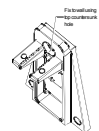

Fig 3
Step 3. Install Wall Mount Bracket. Wall Mount bracket comes c/w light holder and connector block already assembled and wired. As in step 2 determine the height the rail is to be installed. Subtract from this figure 62mm and mark off a line parallel to the pitch line at this height. Fix wall mount bracket to the wall using the top countersunk hole (see Fig 3)